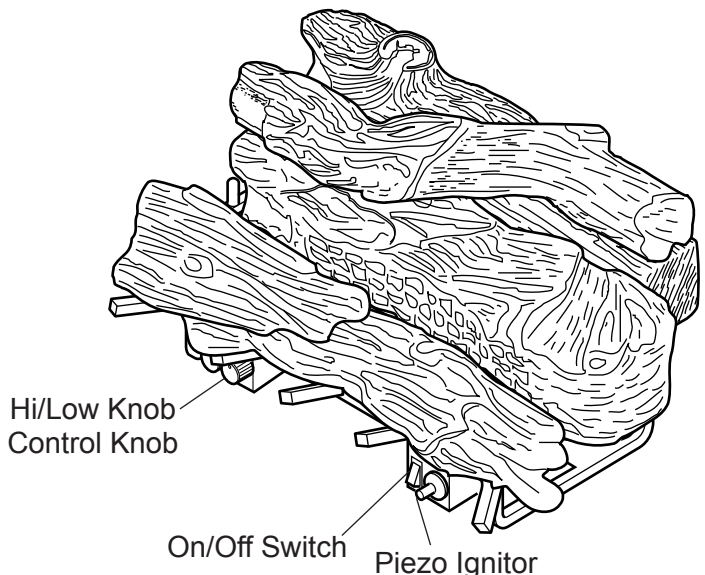

Figure 28 - Location of Piezo Ignitor, On/Off Switch, and Control Knob on Milli-Volt Unit
4. See *Figure 28, page 26* for the location of the piezo ignitor and control knob. Turn control knob clockwise  to the OFF position.